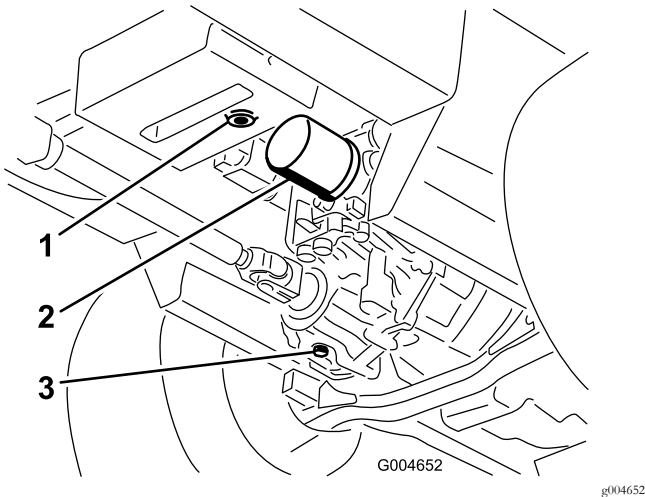

Figure 62
3. Place a large pan under the hydraulic reservoir and transmission case and remove the plugs, draining all of the hydraulic fluid (Figure 62).
4. Clean the area around the hydraulic fluid filter and remove the filter (Figure 62).